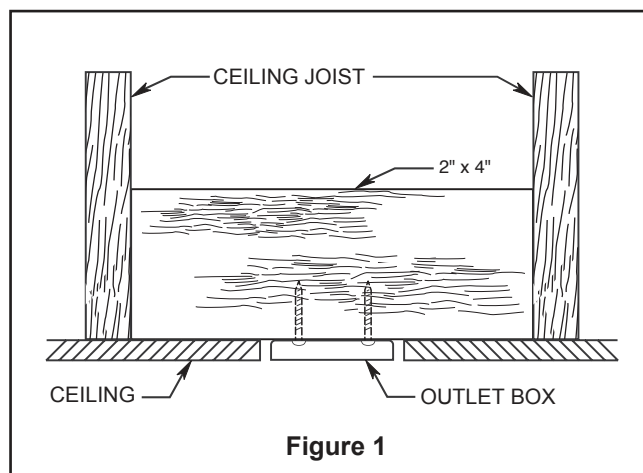
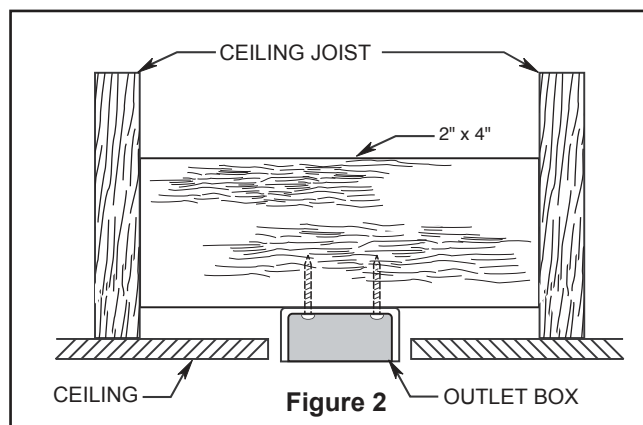
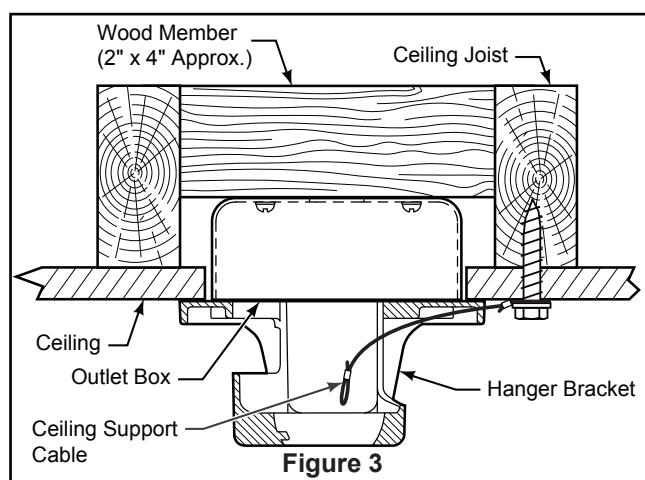

Figure 1
Figure 2
Figure 3
Your new ceiling fan will require a grounded electrical supply line of 120 volts AC, 60 HZ, 15 Amp Circuit. Electrical code requires use of a fan-rated outlet box to support the extra weight and motion associated with a ceiling fan. A fan-rated box will be labeled as such and typically supports up to a 70lb ceiling fan. Fan-Rated Outlet Boxes vary in ratings and design. Ensure the ratings of your ceiling fan outlet box meet the requirements for the ceiling fan being installed. Figure 1, Figure 2 and Figure 3 depicts different structural configurations that may be used for mounting the outlet box.
### Low profile box (Figure 1)
### Deep box (Figure 2)
### Deep box with brace (Figure 3)
3. Loosen the two set screws and locking nuts in the downrod support of the motor housing assembly. Route the black, white, blue wires and safety cable through the downrod. (Figure 3)
1. Securely attach the hanger bracket to the outlet box using the outlet box screws and washers supplied with the outlet box. (Figure 3)
2. Drill a 1/4" pilot hole into the building structure to prevent splitting or cracking with installation of the lag bolt. Using the 3/8" x 2" lag bolt and flat washer, attach safety cable to ceiling joist or wood structural member. The lag bolt will pass through the flat washer, safety cable loop, and into the building structure. (Figure 3) **NOTE:** Ceiling support cable cannot be secured to outlet box only, it must be directly secured to ceiling joist or structural member using the 3/8" x 2" lag bolt and flat washer. (Figure 3)
2. Slide the receiver into the hanger bracket before wiring as shown in figure 3.
- 3.** To make fan operational, install 23A/12V battery (included) in hand-held remote transmitter, with fan power off. Then follow the remote code setting process. (If not used for long periods of time, remove battery to prevent damage to transmitter). Store the remote away from excessive heat or humidity. (Figure 3)